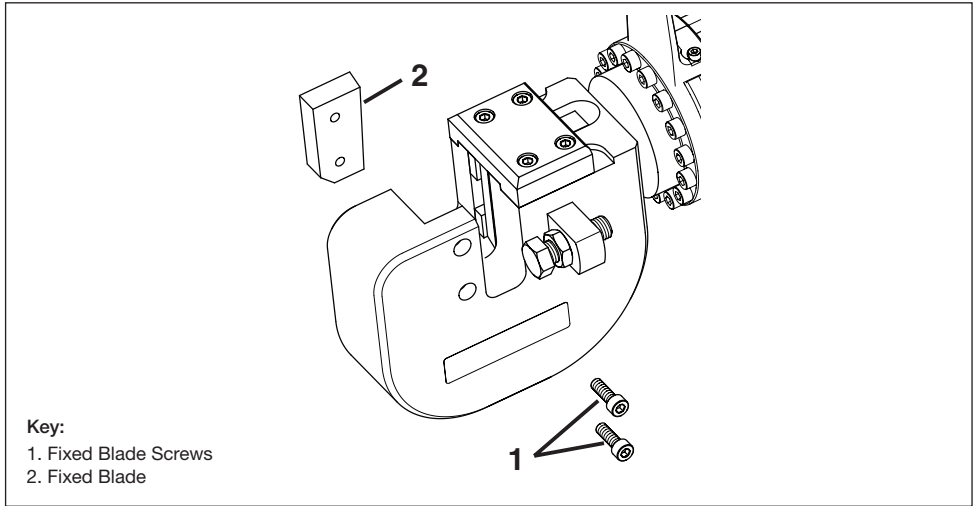

Figure 9, Fixed Blade Replacement
Replace the fixed blade as described in the following steps. Refer to Figure 9, items 1 and 2.